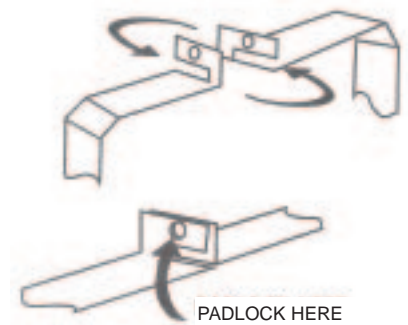

Figure 2
**Note:** D35 only - The top channel is interlocked into place on top of the bowls in the same manner as described above. Interlock the side without the padlock first. (See Figure 2)